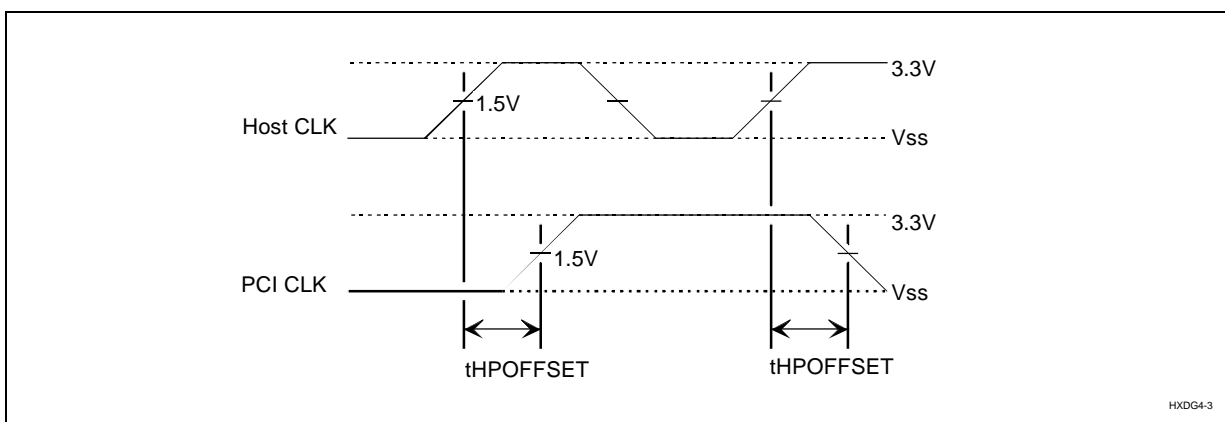

Figure 4-3. Host CLK to PCI CLK Offset
4. tHKH is measured at 2.4V as shown in Figure 4-3.
5. tHKL is measured at 0.4V as shown in Figure 4-3.